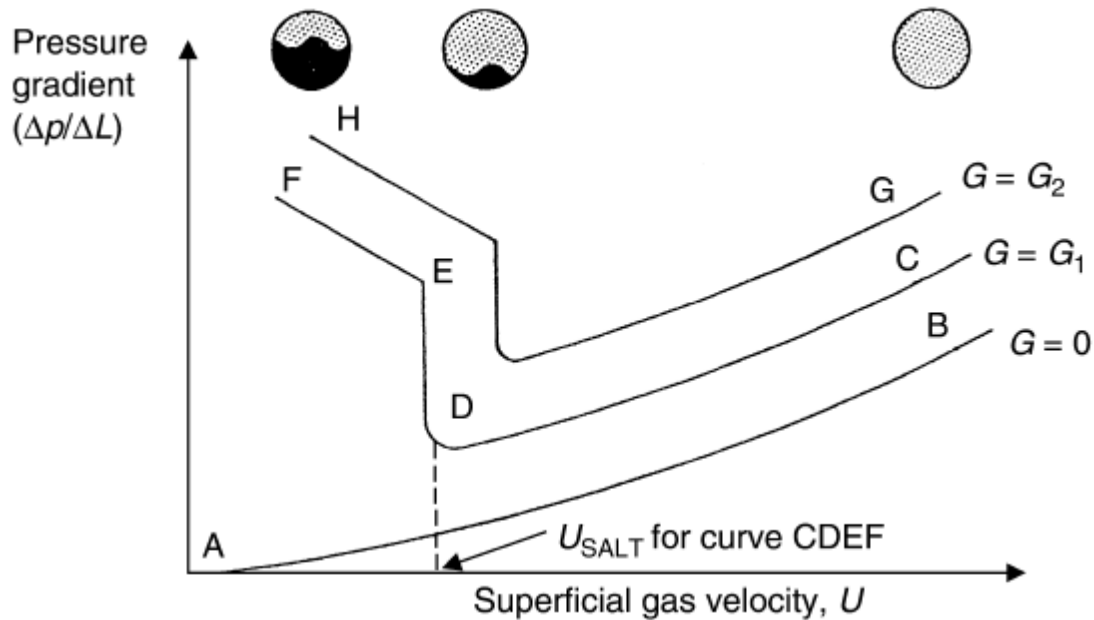

Fig. 1: Phase diagram for dilute phase horizontal pneumatic transport
- c. The general relationship between gas velocity and pressure gradient $\Delta P/\Delta L$ for a horizontal transport line is shown in Fig 1. Line AB represents the curve obtained for gas only in the line, CDEF for a solids flux, G_1 , and curve GH for a higher solids feed rate, G_2 .